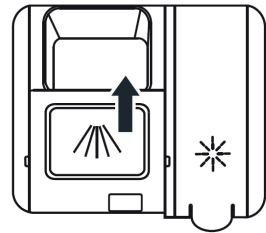

Fig.8
3. Finally, close the flap by sliding it to the left (Fig. 8).